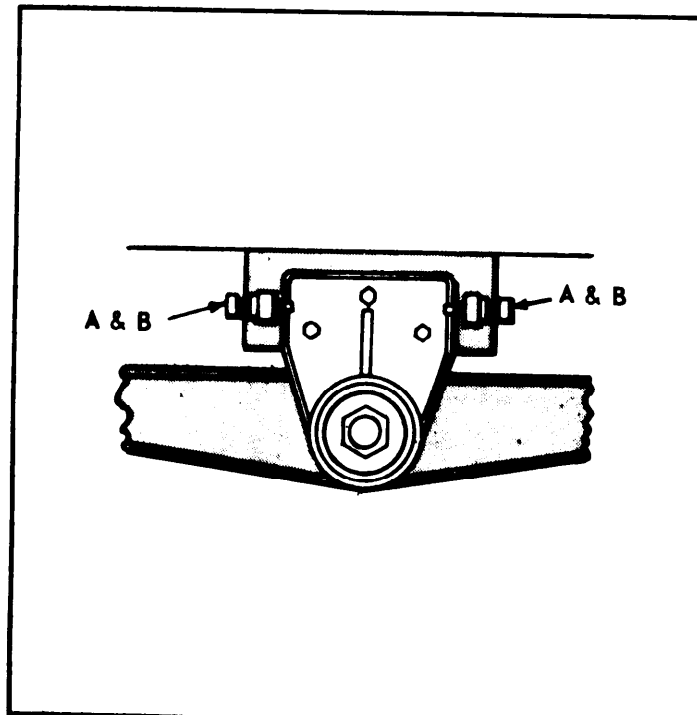

FIGURE 10-3. ALIGNMENT SCREWS
a. Loosen all locknuts at points "A" and "B" (see figure 10-3).
b. Loosen the four (4) alignment screws "A" and tighten the four (4) alignment screws "B". Continue this procedure until tandem is in alignment.